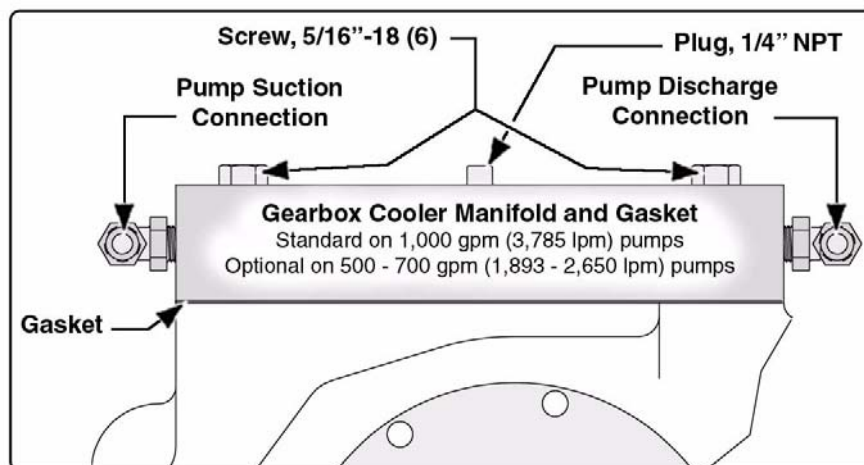

Figure 6c-4: Gearbox Water Cooler
2. Disconnect the water lines at the manifold fittings. (See Figure 6c-4: “Gearbox Water Cooler.”)
3. Remove six (6) 5/16”-18 screws, the water manifold and gasket.